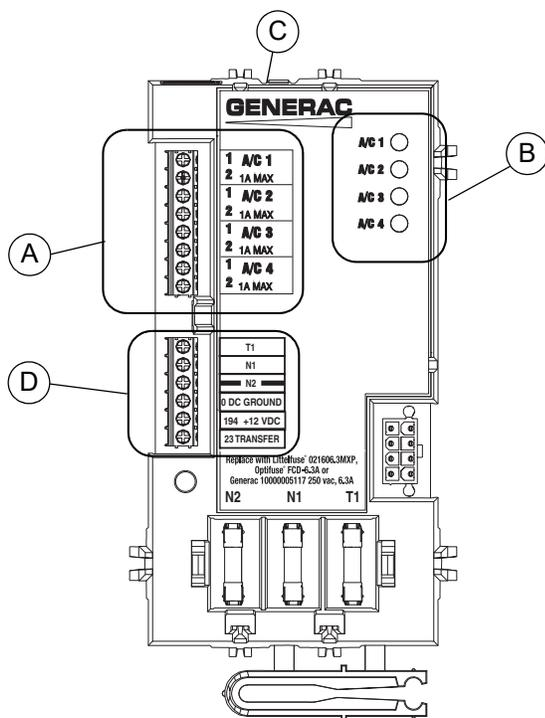

Figure 2-2. Smart A/C Module (SACM)
See **Figure 2-2**. Priorities A/C 1-4 (A) have connections for an air conditioner. To control an air conditioner, no additional equipment is required. Internal normally closed relays interrupt the 24 VAC thermostat control signal to disable the air conditioner load.
See **Figure 2-2**. The SACM has a test button (C) used to simulate an overload condition. This button operates even when the transfer signal is inactive. The Generator Control Wiring is connected to terminals (D).